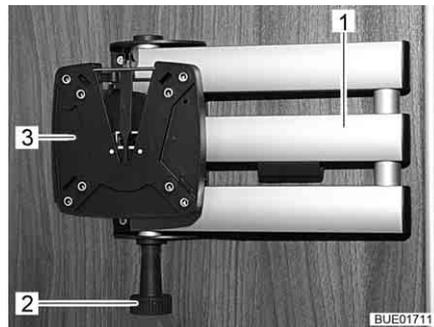

Fig. 90 Holder with jointed arm
- Pull the release knob (Fig. 90,2). The jointed arm (Fig. 90,1) is unlocked.
- Turn the flat screen back into the original position until you hear the holder (Fig. 90,3) engage in the lock.